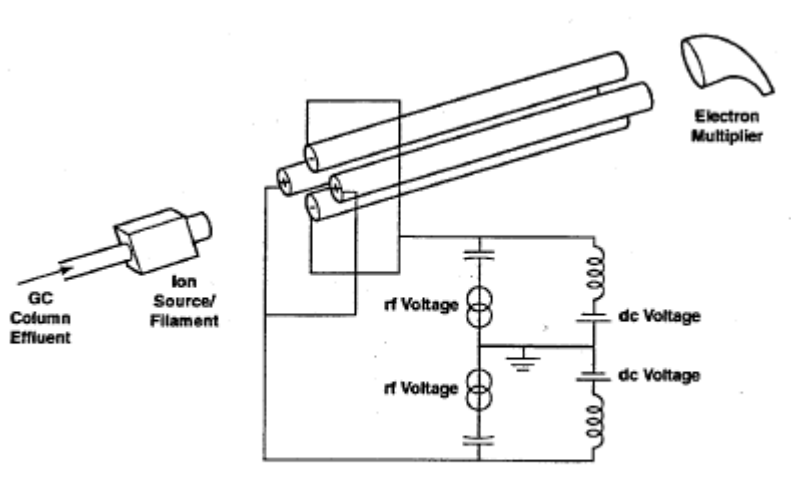

Figure 6. Simplified diagram of a quadrupole mass spectrometer.
**“7.2.2.3.1 Linear Quadrupole Technology.** A simplified diagram of the heart of the quadrupole mass spectrometer is shown in Figure 6. The quadrupole consists of a parallel set of four rod electrodes mounted in a square configuration. The field within the analyzer is created by coupling opposite pairs of rods together and applying radiofrequency (RF) and direct current (DC) potentials between the pairs of rods. Ions created in the ion source from the reaction of column eluates with electrons from the electron source are moved through the parallel array of rods under the influence of the generated field. Ions which are successfully transmitted through the quadrupole are said to possess stable trajectories and are subsequently recorded with the detection system. When the DC potential is zero, a wide band of  $m/z$  values is transmitted through the quadrupole. This "RF only" mode is referred to as the "total-ion" mode. In this mode, the quadrupole acts as a strong focusing lens analogous to a high pass filter. The amplitude of the RF determines the low mass cutoff. A mass spectrum is generated by scanning the DC and RF voltages using a fixed DC/RF ratio and a constant drive frequency or by scanning the frequency and holding the DC and RF constant. With the quadrupole system only 0.1 to 0.2 percent of the ions formed in the ion source actually reach the detector.